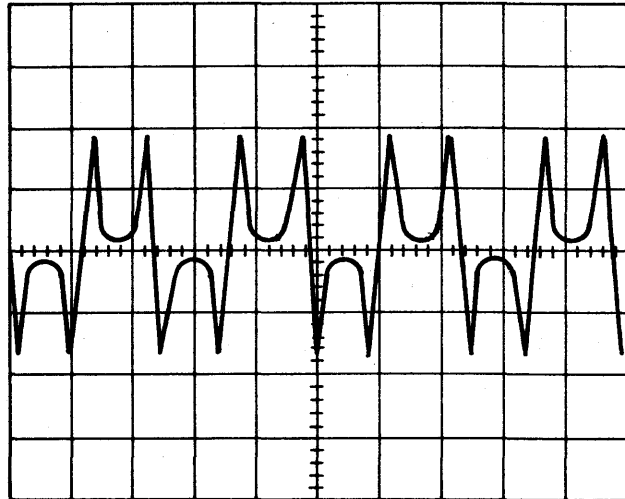

Figure 59. Balanced dibit pattern
- _____ Step 50. A balanced dibit pattern, similar to figure 59, should be observable on the oscilloscope.